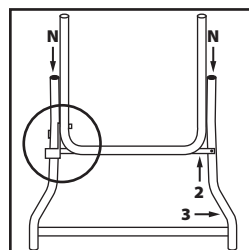

Fig. 6
- Ensure that component **4** is the right way round and that the latch on component **3** engages the latching pin on component **4** correctly **(Fig. 6)**.